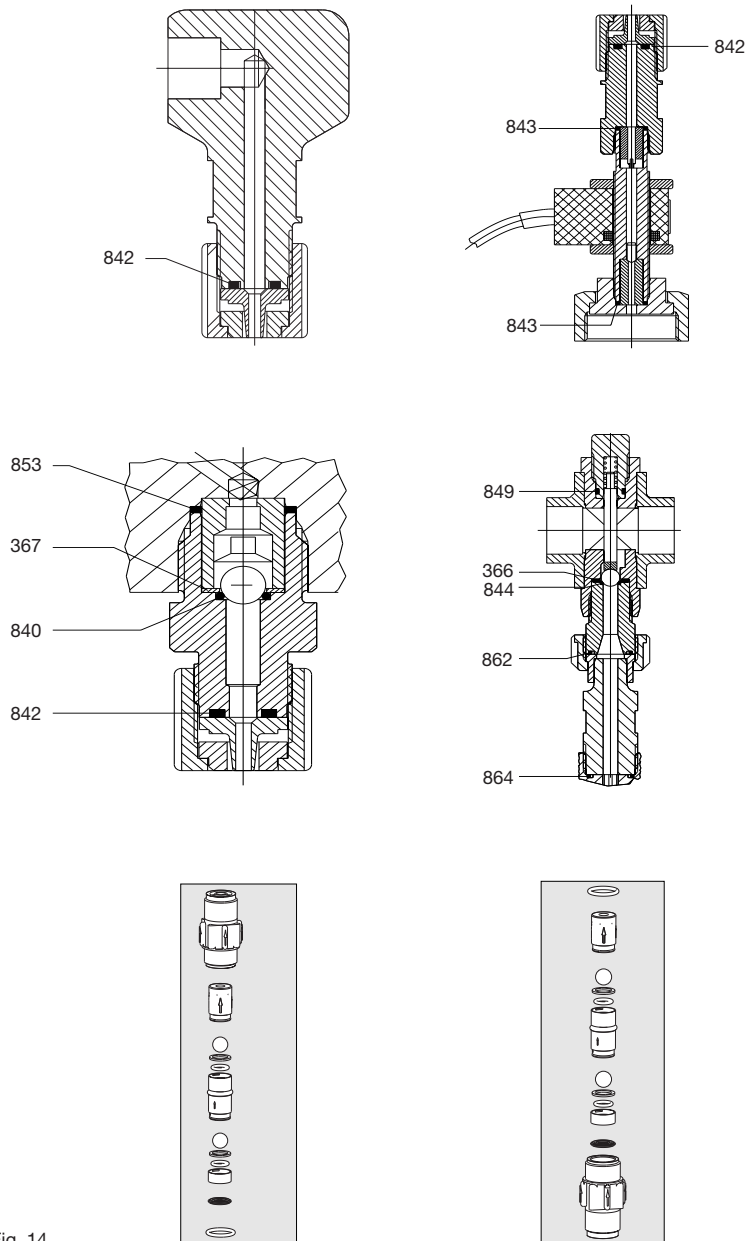

Fig. 14
- Compression springs of injection valves (see Fig. 14)